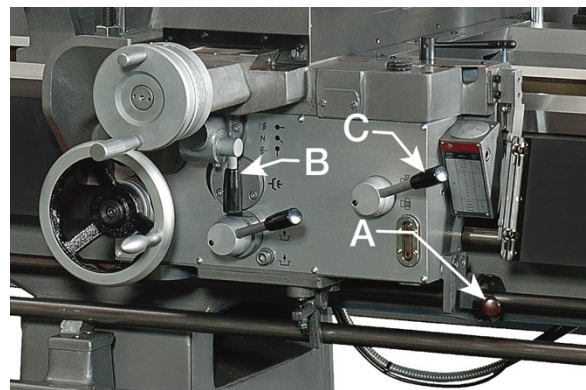

Figure 13-3
1. Move the forward/reverse selector (A, Figure 13-3) up or down depending on desired direction.
5. Push Feed Axis Selector Lever (B, Figure 13-3) to the left and down to engage crossfeed. Push lever to the right and up to engage longitudinal feed.
Push Feed Axis Selector Lever (B, Figure 13-3) to the left and down to engage crossfeed. Pull lever to the right and up to engage longitudinal feed.
3. Make sure the feed axis selector (B, Figure 13-3) is disengaged (neutral position) before engaging the half nut engagement lever. There is an interlock mechanism between the auto-feeding and the thread-cutting half-nut engagement.
4. If cutting Imperial threads, read the threading dial indicator and engage the half nut engagement lever (C, Figure 13-3) by moving it downward. It will engage with the leadscrew to obtain the longitudinal travel of carriage (the thread cutting feed). See *Section 13.8.1 Threading Dial Indicator* for proper use of dial.